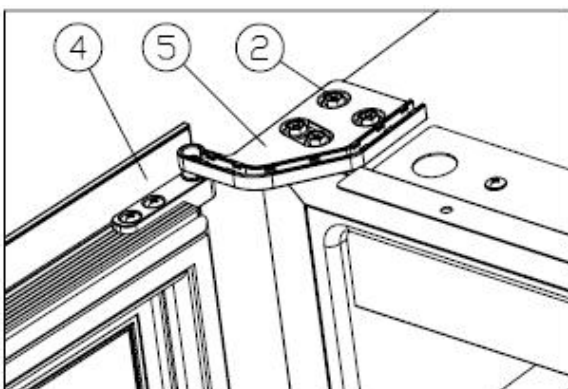

Figure 6
- ✧ Turn the door ④ 180 degrees, and insert the right lower hinge ⑤, screw tight M5*16 screws ②.[Figure 6]Door reversing is finished.